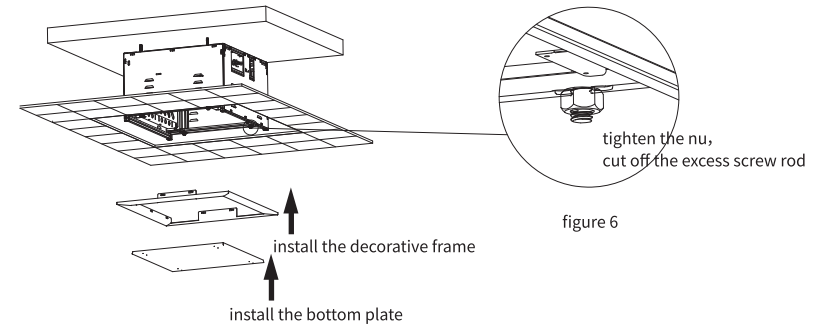

figure 6
4. After flattening the projector lift, cut the elongated screw flat (cut to a 5mm more than the nut, and the length cannot be longer than the square tube of the bottom frame of the projector lift), as shown in Figure 6, and then install back the decorative frame and bottom plate.